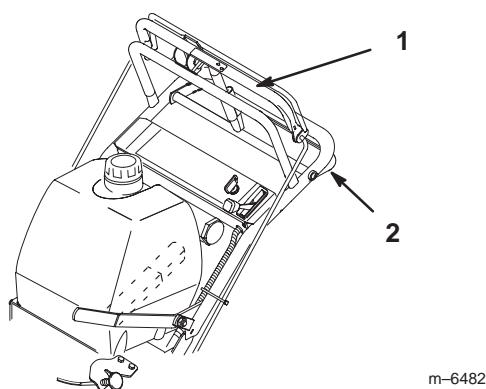

Figure 20
- Slowly press on the upper control bar to move forward (Fig. 20).
To go straight, apply equal pressure to both ends of the upper control bar (Fig. 20).
To turn, release pressure on the upper control bar side toward the direction you want to turn (Fig. 20).
3. Slowly squeeze on the lower control bar and handle together to move rearward (Fig. 20).